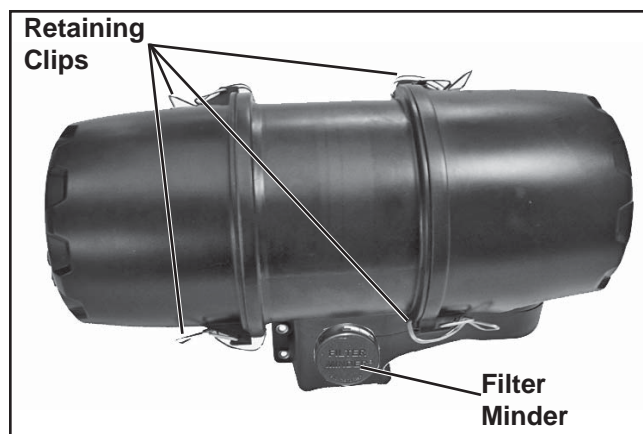

Figure 4-1. Heavy-Duty Air Cleaner.
These engines use a heavy-duty style air cleaner shown in Figure 4-1, consisting of a cylindrical housing mounted to a bracket, on the throttle body/intake manifold. The air cleaner housing contains a paper element and inner element, designed for longer service intervals. The system is CARB/EPA certified and the components should not be altered or modified in any way.
1. Unhook the two retaining clips on each end and remove the end caps from the air cleaner housing. See Figure 4-1.
7. Reinstall the end caps and secure with the retaining clips. See Figure 4-1.